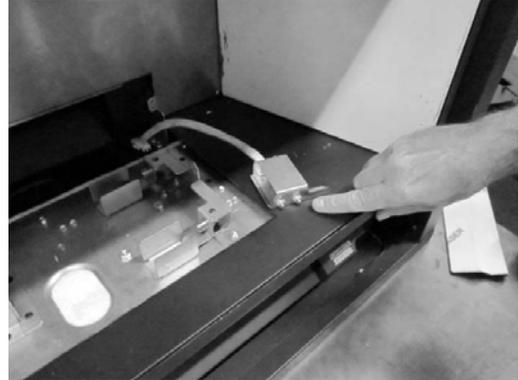

Figure 2: Remove front light cover
1. Remove both accent light assemblies from the brackets at the rear of the firebox (save the screws). Remove and discard the front light cover from both assemblies. See Figure 2 below. Place the accent light assemblies in the center of the firebox floor, as shown below.